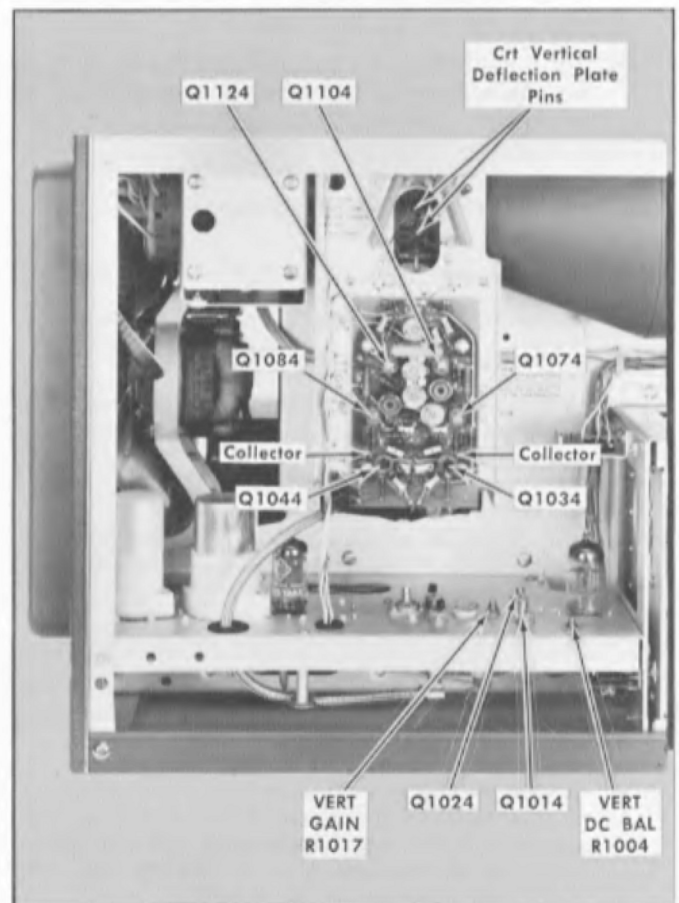

Fig. 5-4. Vertical Amplifier test point and adjustment locations for performing steps 9 and 10.
- a. Using a small screwdriver, short the crt vertical deflection plate pins together (see Fig. 5-4).
- d. Short the cases of Q1104 and Q1124 (see Fig. 5-4) together (not to ground) and note the deviation of the trace from electrical center. Deviation should not be more than 0.5 cm maximum. Remove the short.
- e. Short the cases of Q1074 and Q1084 together (see Fig. 5-4) and note the trace deviation from electrical center. Deviation should not be more than 0.5 cm maximum. Remove the short.
- f. Short the collector of Q1034 to the collector of Q1044 (see Fig. 5-4) and note the trace deviation from electrical center. Deviation should not be more than 0.5 cm maximum. Remove the short.
- i. Adjust the VERT DC BAL control R1044 (see Fig. 5-4) to position the trace to the center of the graticule.
- e. Adjust the VERT GAIN control R1017 (see Fig. 5-4) so the display vertical deflection is exactly 4 cm in amplitude.